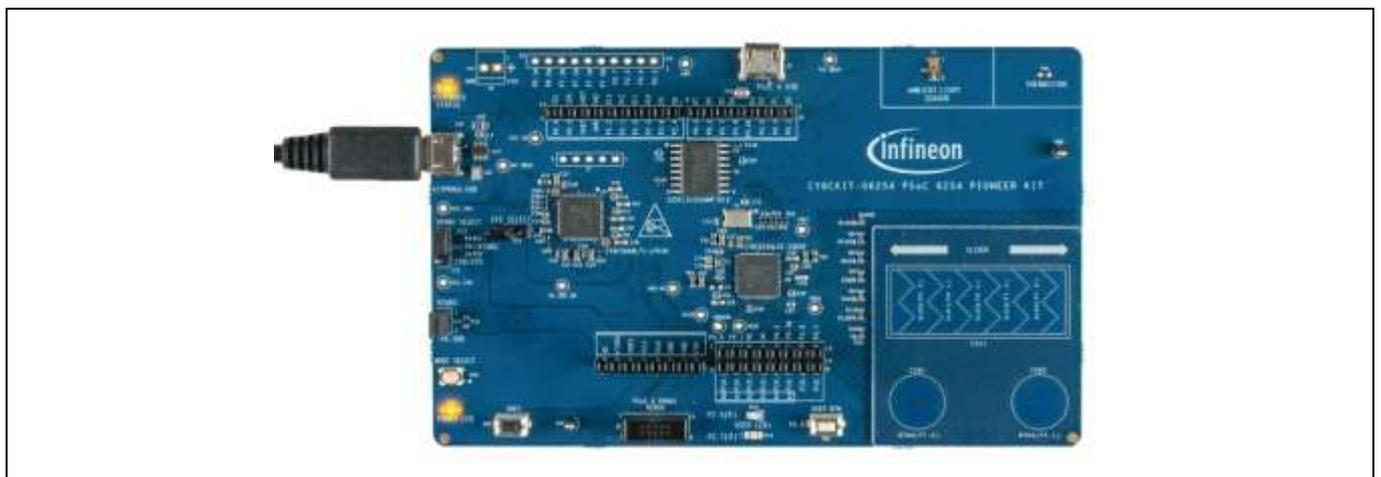

Figure 6 Connect USB cable to USB connector on the board
1. Connect the board to the PC using the USB cable, as shown in Figure 6. It enumerates as a USB composite device if you are connecting it to your PC for the first time. KitProg3 can operate either in CMSIS-DAP Bulk mode (default) or CMSIS-DAP HID mode. Programming is faster with the Bulk mode. The status LED (Yellow) is always ON in Bulk mode, ramping at 1 Hz rate in HID mode. See the KitProg3 user guide for details on the KitProg3 status and troubleshooting instructions.